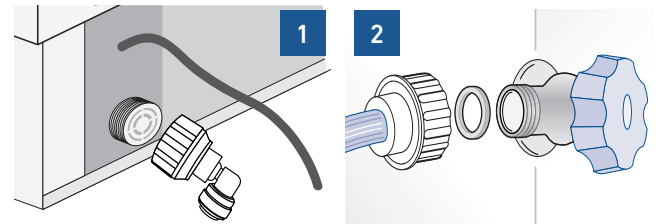

fig. 3 Water connection
- > Connect the water line to the threaded connection at the base of unit [1], as in figure 3.